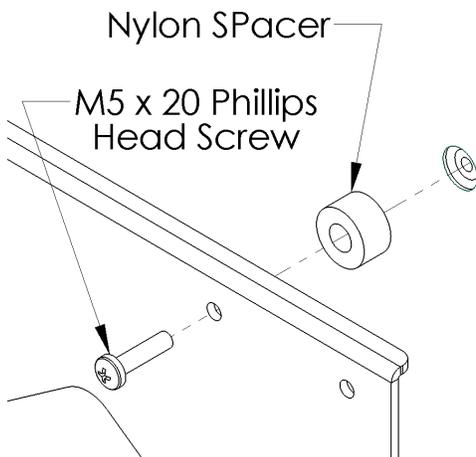
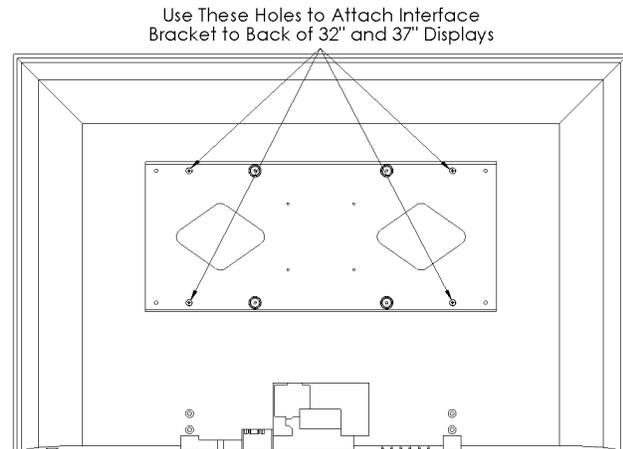

Figure 4
Figure 5
2. Place Nylon spacers over mounting holes on back of screen. Attach mounting brackets to display using the M5 screws (see Figure 4 & Figure 5). Use the inner set of holes for 32" and 37" screens and the outer set of holes for 42" and 47" screens.